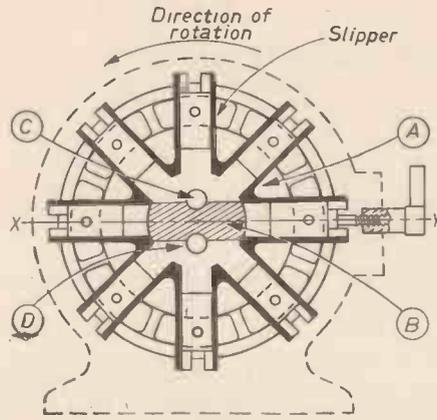

Fig. 4.—Variable delivery pump.
The sketch Fig. 4 shows a section through the pump. It consists of a cylinder body (A) containing a number of radial cylinders, which is coupled to and driven by an electric motor. (B) is a fixed central "valve" on which the cylinder revolves and contains a suction port (C) and delivery port (D) connected to the outside passages. The whole pump casing and piping system connected to the ports is full of oil.